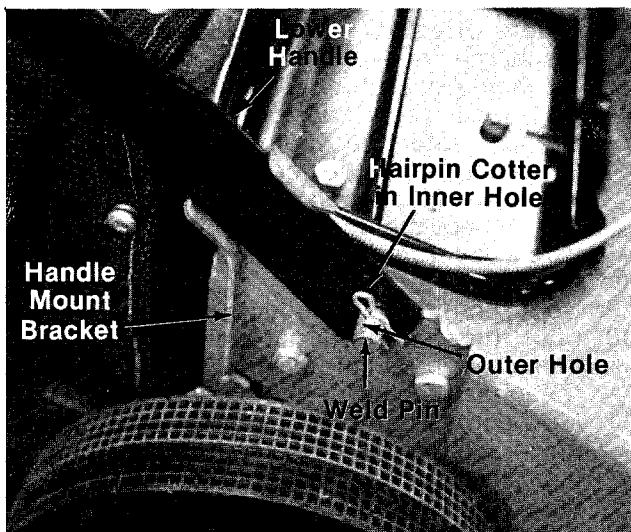

FIGURE 2.
- ← 3. Place lower handle in position over weld pins in handle mount brackets on deck. Secure by placing two hairpin cotters (F) in inner hole on weld pins. See figure 2.